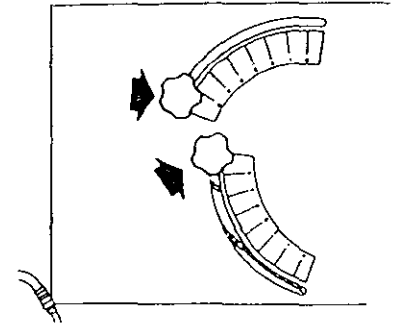

Figure 19 - Maximum Rates
- 1/ The Varibox Gearbox - Figure 19 & 20
- 2/ Loosen each knurled knob (see figure 19 or 20), set the levers to the recommended positions and retighten firmly.
vi/ Checking the rotation of the drives. Before you begin the days seeding you can easily check the rotation of the seed and fertilizer metering systems by "ratcheting" the adjustment levers (see figure 19). Simply loosen the knurled knobs and move the levers backwards and forward a number of times. This will rotate the drives. This allows you to do the following:-